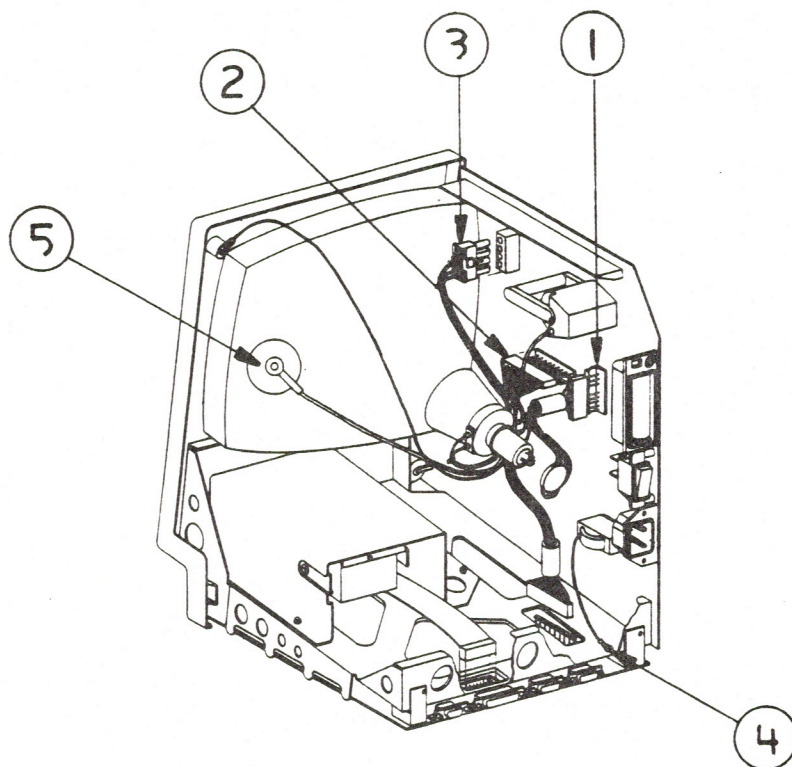

FIGURE 6
2. Connect the yoke cable (Figure 6, #1).
3. Connect the main logic cable (Figure 6, #2).
5. Connect the CRT socket cable to the power/sweep board (Figure 6, #3).
6. Replace the ground wire at the bottom of the chassis using a washer and Phillips head screw (Figure 6, #4).
9. Connect the anode connector to the CRT (Figure 6, #5). Put one prong of the connector in at an angle and push it against the edge of the anode ring. Then insert the other prong.